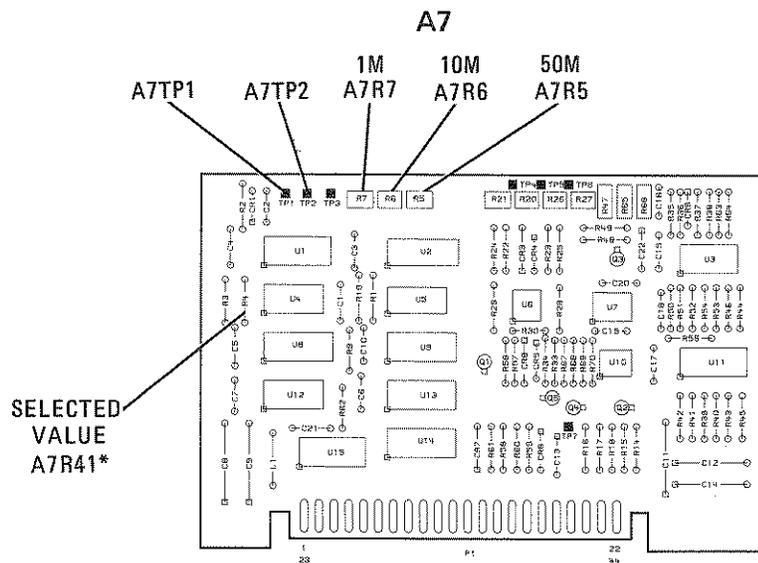

Figure 5-41. Marker Adjustments on A7
6. Connect scope probe to A7TP1 (Figure 5-41). Adjust A7 Marker Threshold potentiometers for the proper pulse width of each marker as follows: